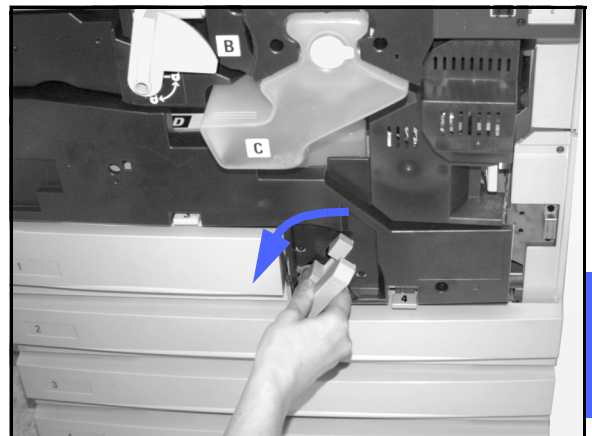

Figure 14: Rotating the green handle counterclockwise
- 8** Firmly push in the Paper Path Module until it is in place. Turn the green handle counterclockwise to lock the module, as illustrated in Figure 14.